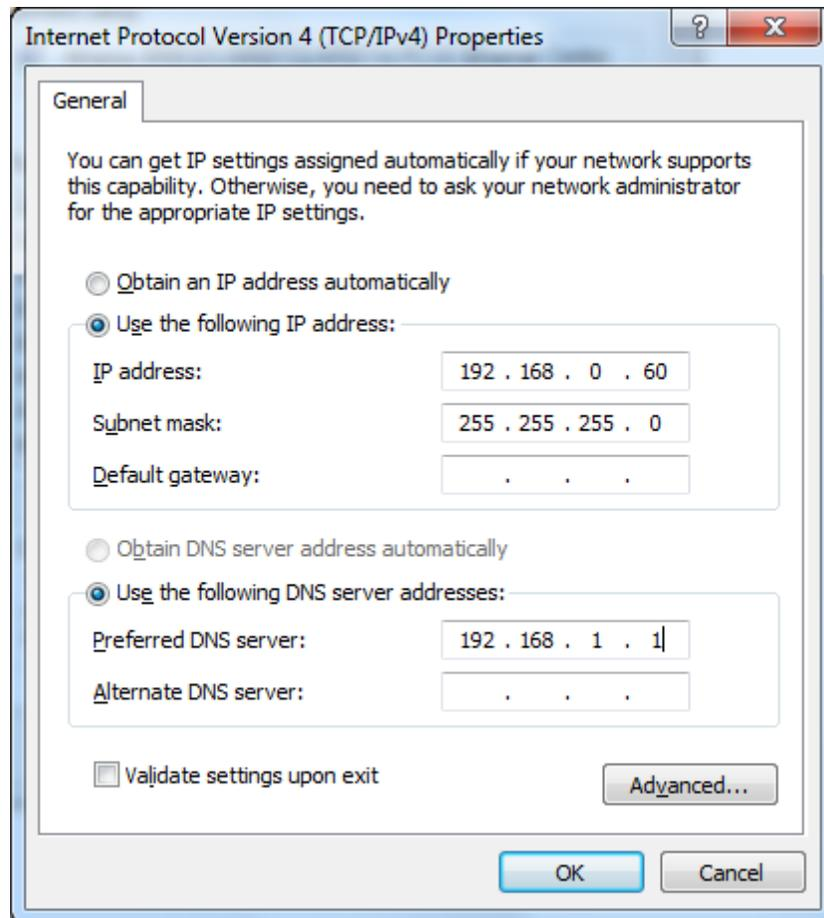

Figure C10. Windows 7 configuration for fixed IP address screen 4
4. Click on “Internet Protocol Version 4 (TCP/IPv4)” to highlight it, and then click on “Properties” to arrive at the next screen, Figure C10. Select “Use the following Internet address”.
5. Set the IP address to your desired address, and make sure the subnet mask is set to 255.255.255.0 as shown in Figure C10. You don't have to fill in the default gateway or DNS server addresses.